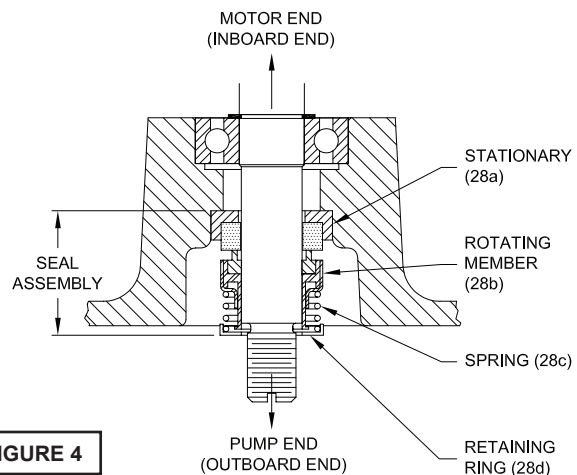

FIGURE 4
Outer Seal (All Units)- To expose shaft seal (28) for examination, disassemble volute and impeller as outlined in paragraph F-2.1. If further repair is required, remove retaining ring (28d), spring (28c) and rotating member (28b) from shaft (see Figures 4 & 5). Examine all seal parts and especially contact faces. Inspect seal for signs of wear such as uneven wear pattern on stationary members, chips and scratches on either seal face. **DO NOT** interchange seal components, replace the entire shaft seal (28). If replacing seal, remove stationary (28a) by prying out with flat screwdriver.